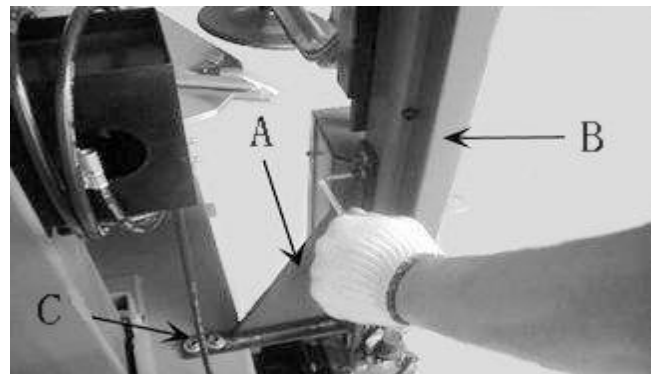

Fig 7-4
7.1.5 Use the fix bracket (Fig7-4 A) to connect the main frame support with the machine cabinet and insert the screw to fix.
center (Fig7-7). If there is any difference, adjust the position of the base (Fig7-4) to achieve the coincidence and then lock each bolt after regulation.